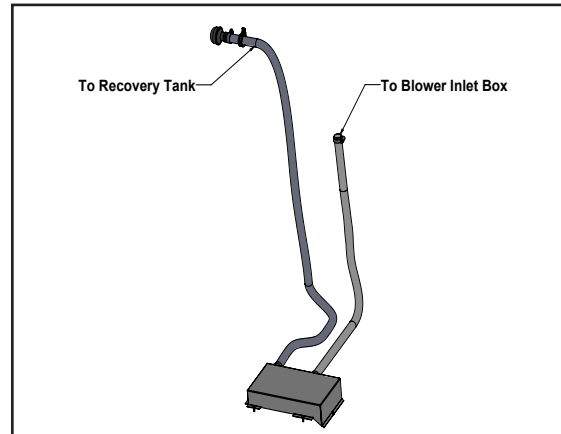

Figure 19. Route and Connect 2 Flex Hoses
1. Connect the two 1" flex hoses to the new cover over the yaw sensor. Use the provided hose clamps to secure the hoses (see Figure 19).